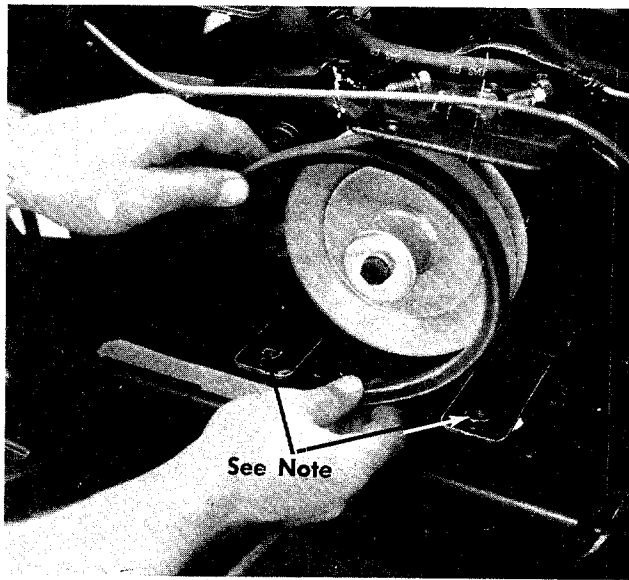

**FIGURE 10. BELT GUARD REMOVAL**
- c. Unplug the safety switch. See figure 10.
- d. Remove the two bottom bolts on the belt guard. Lift off the belt guard. See figure 10.